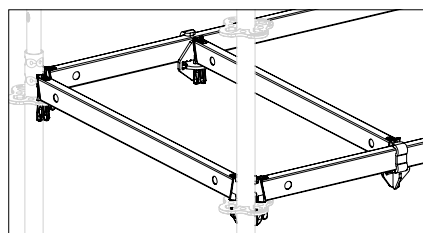
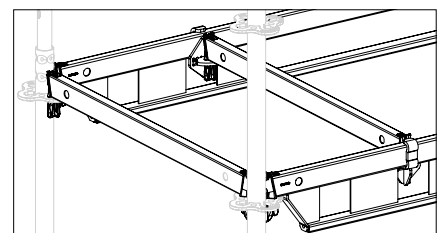

Fig. A11.05a
Fig. A11.05b
- The Ledger to Ledger Coupler UHA (93) can be attached to Horizontal Ledger UH (Fig. A11.05a) as well as the reinforced Horizontal Ledgers UHV (Fig. A11.05b).